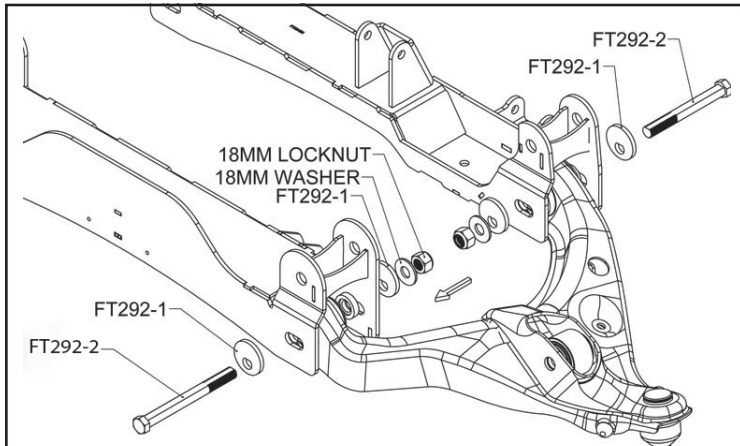

FIGURE 27 - STEP 26
26. Locate the Alignment cam kit (FT292). Locate the factory control arms. Install the lower control arms into the Fabtech crossmembers using the hardware in the cam kit (FT292). Torque the cam bolts at 200 ft-lbs after alignment. Torque crossmember bolts to 200 ft-lbs. **SEE FIGURE 27**